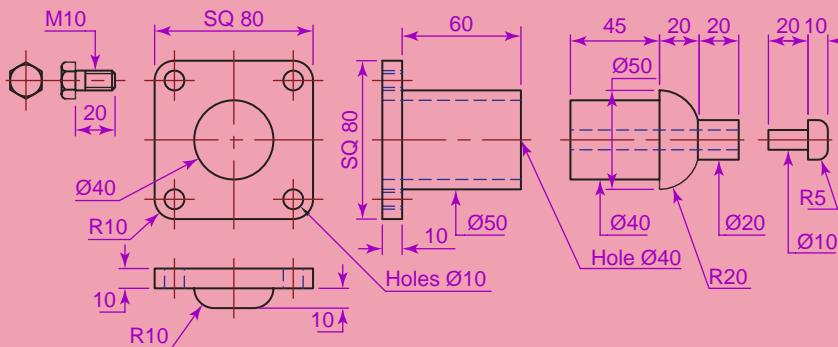
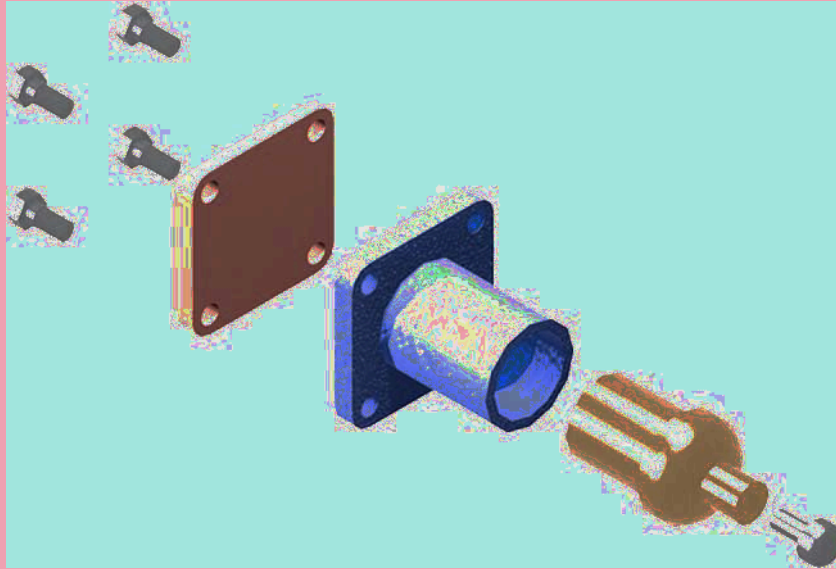

Fig. 19.22 Exercise 4 – details of shapes and sizes
Fig. 19.23 Exercise 4 – an exploded rendered model
4. Construct an assembled 3D model drawing working to the details given in Fig. 19.22. When the 3D model drawing has been constructed disassemble the parts as shown in the given exploded isometric drawing (Fig. 19.23).